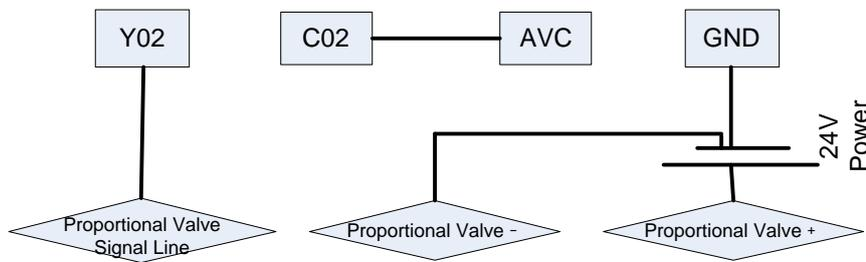

Fig. 5-2 The Wiring between Proportional Electromagnetic Valve and Port Y02
- 2) Check whether the wiring between the proportional electro-magnetic valve and the output port “analog enable” in the machine tool is correct or not, as shown in Fig. 5-2; If the wiring is correct, then use the multimeter to detect ends of port “Y02” and “GND”, or the analog voltage between “proportional valve signal line” and “proportional valve”.